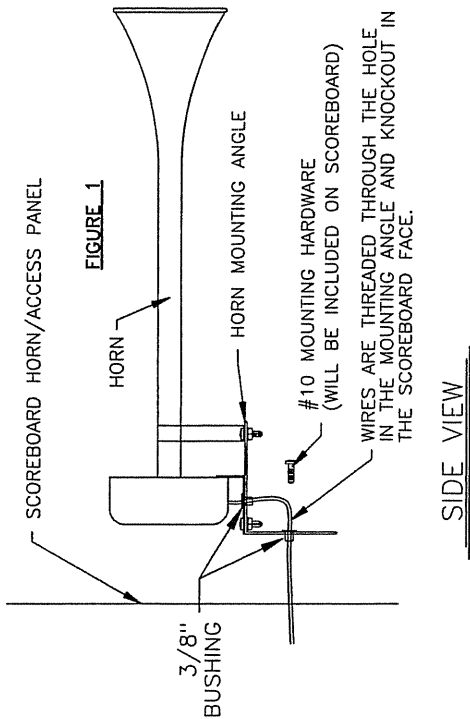

FIGURE 1
3) ATTACH THE HORN TO THE INCLUDED HORN MOUNTING ANGLE WITH THE INCLUDED #10 HARDWARE. SEE FIGURE 1.